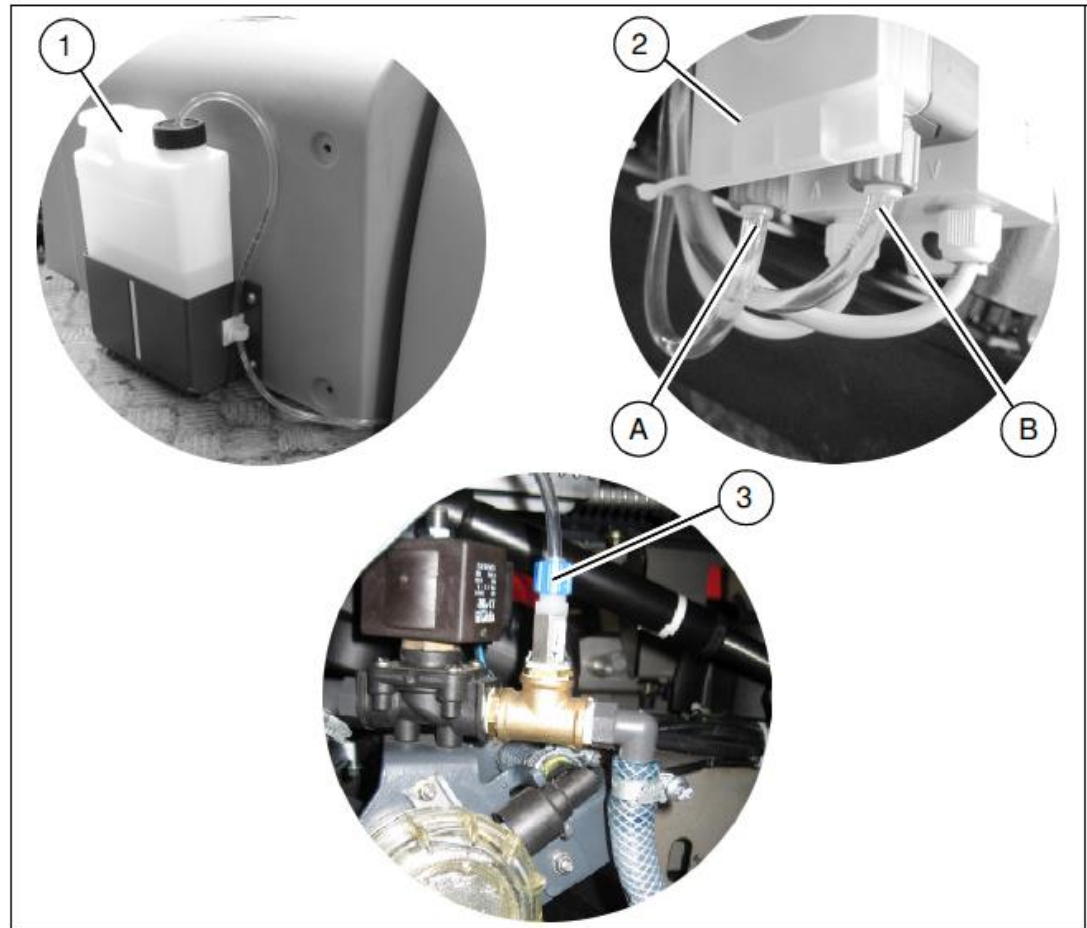

Fig. 5
1. Drill a 6 mm diameter hole in the canister cap (Fig. 5/1) for the dosing hose.
3. Fix the dosing hose, 1280 mm long, from the canister (Fig. 5/1) to the dosing pump (Fig. 5/2) (input=A) to the canister holder with cable clips and cable ties.
4. Fix the dosing hose, 1700 mm long, from the dosing pump (Fig. 5/2) (output=B) to the non-return valve (Fig. 5/3) together with the cabling using cable ties.